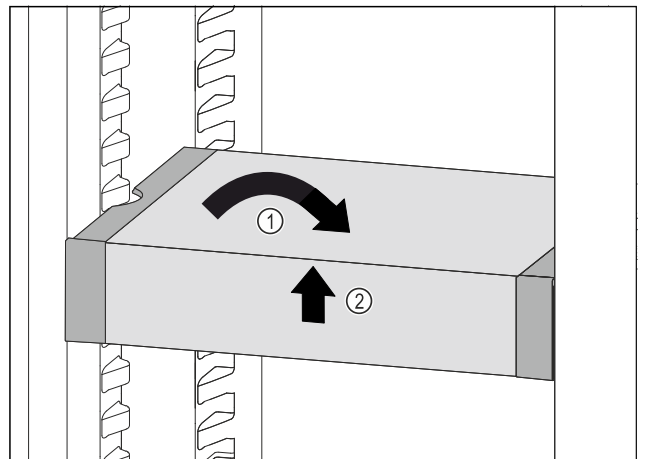

Fig. 55
- ▶ Set VarioSafe straight. Fig. 55 (1)
- ▶ Lift VarioSafe at the front. Fig. 55 (2)